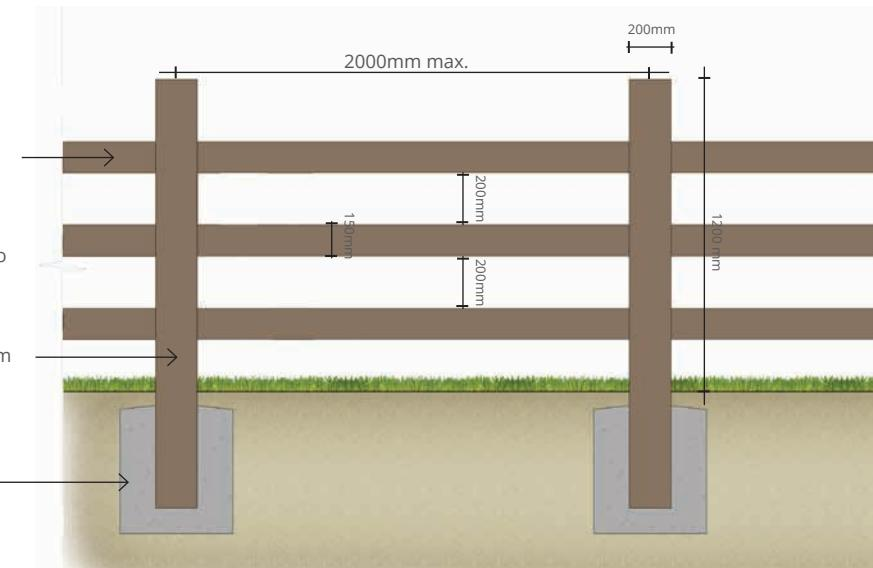

Figure 5: Typical Section- Dark hardwood Timber Post & Rail Fence. Mandatory.
Dark hardwood timber post and rail fence to boundaries facing streets Mandatory. Refer figure 5
- All front boundary fences (and any other fences fronting a road i.e corner lots) are to be 1200mm sawn, dark, natural hardwood timber post and rail (3 rails). Mandatory. Refer figure 5